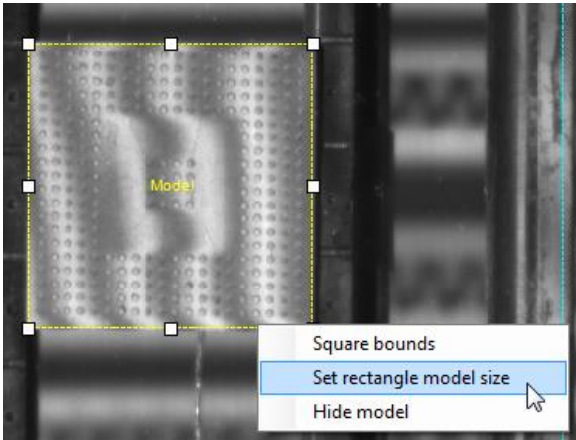

Figure 2.46 Set Model Size
4. Size the yellow 'Model' ROI so that it exactly contains one of the parts. Right click on the model ROI and select 'Set rectangle model size' (**Figure 2.46**).
6. Right click on the camera window and click Acquire (**Figure 2.46**).